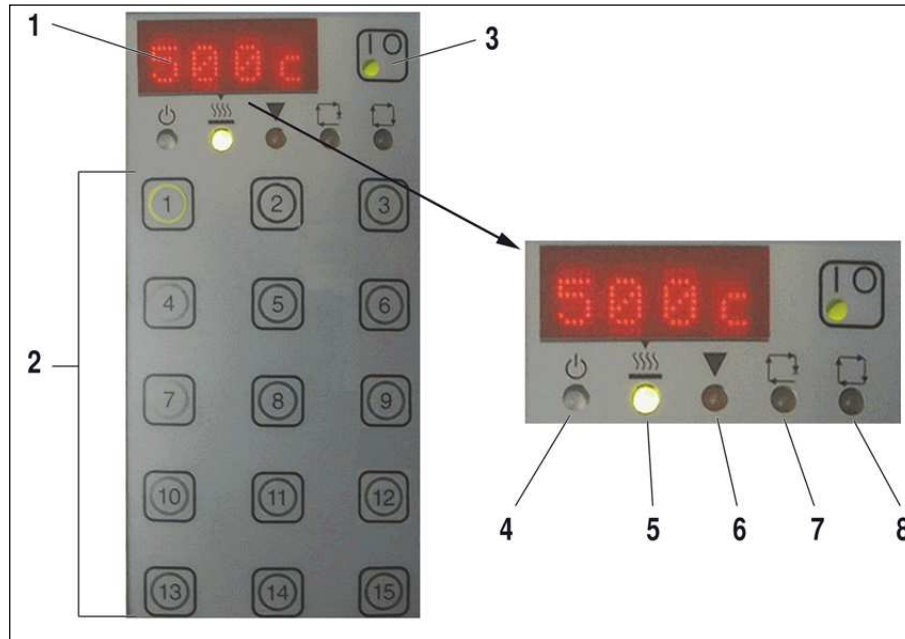

Fig. 1-3: Temperature Display Panel Features
**Do not use the Mains Isolation switch (3) to turn off the Processor, as this will cause a significant reduction to the life of the heater element. Turn off the Heater using the I/O Switch (2) on the Temperature Display Panel. (See Figure 1.3.). The temperature will drop and cooling will continue, once below 200° C, the fan will turn off and the Processor will enter the stand-by mode. The power can now be switched off using the Mains Isolation Switch.**